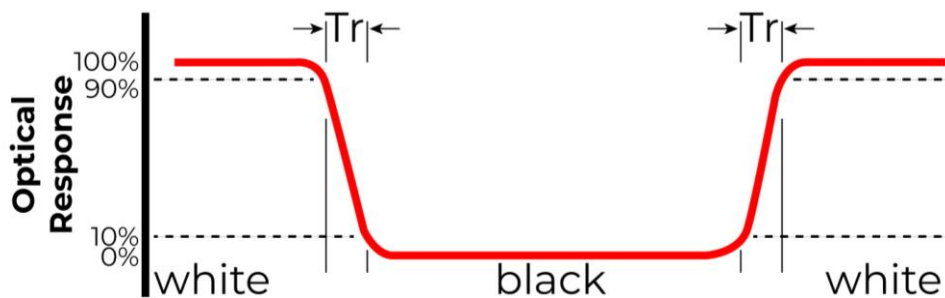

Figure 2. The definition of response time
| Response Time | Tr+Tf | $\theta=0^\circ$ $\phi=0^\circ$ Ta=25 °C | - | 25 | 35 | ms | FIG 2. | 4, 7 |
Note 1. Contrast Ratio (CR) is defined mathematically as below, for more information see Figure 2.
Note 2. Surface luminance is the LCD surface from the surface with all pixels displaying white. For more information see Figure 2.
Note 3. The uniformity in surface luminance δ WHITE is determined by measuring luminance at each test position 1 through 5, and then dividing the minimum luminance of 5 points luminance by maximum luminance of 5 points luminance. For more information see Figure 2.